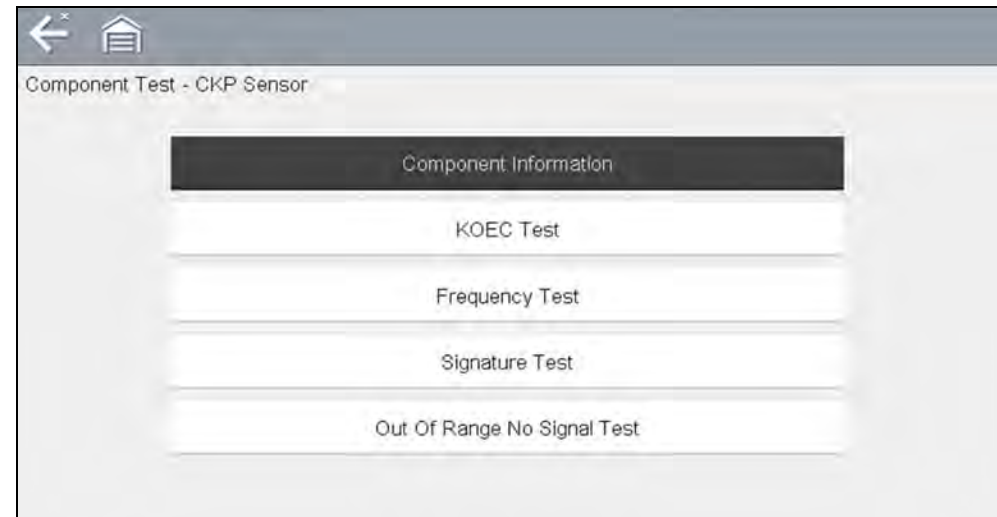

Figure 9-5 Component Tests Menu
2. Select **Component Information** from the Component Test menu (Figure 9-5).